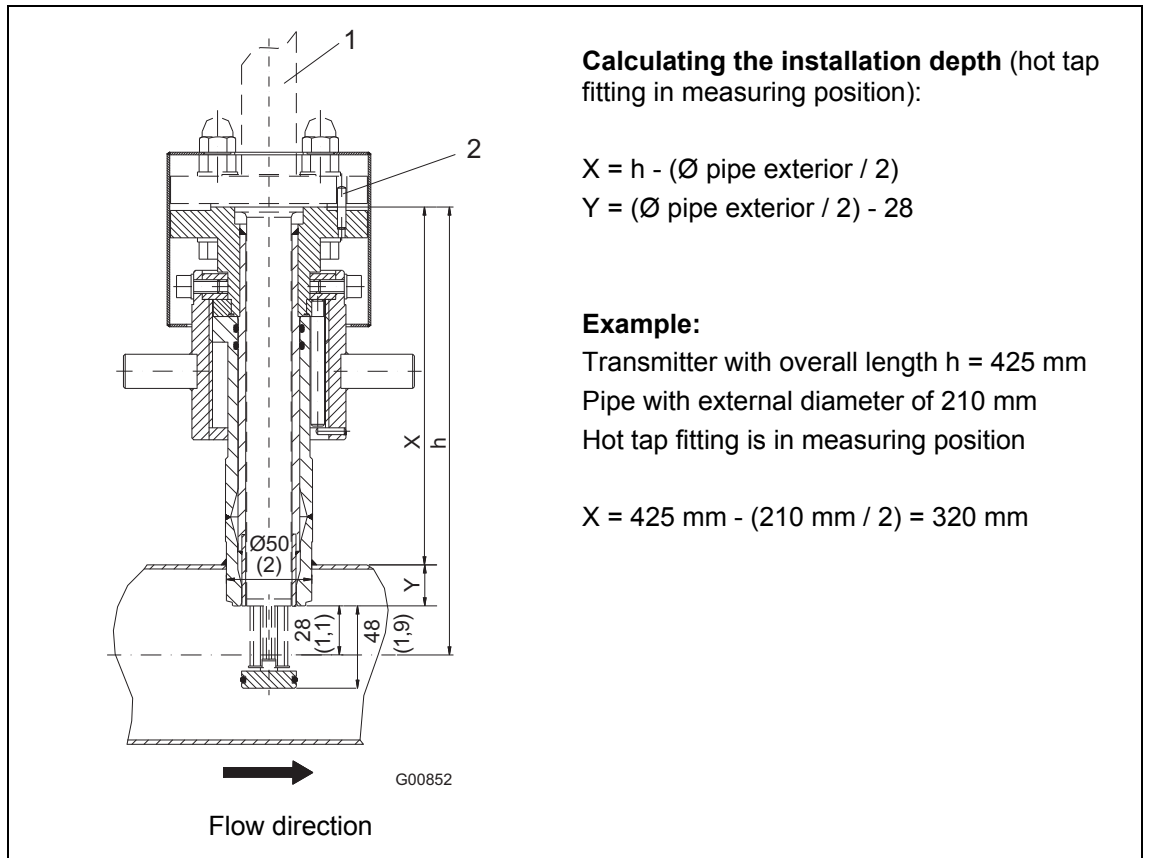

Fig. 9: Dimensions in mm (inches) hot tap fitting in measuring position
- The adapter centering pin must be aligned with the pipe axis in the flow direction (outflow side, behind the measuring point), see Fig. 9.